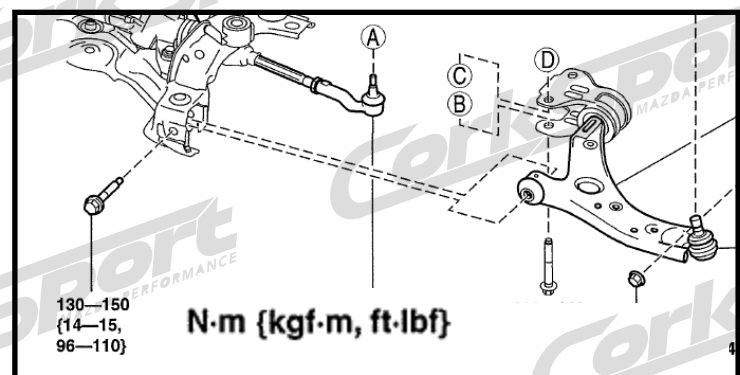

Figure 1d
d) Torque Control arm bolts down to 96-110ft.lbs. Figure 1d shows the location and the torque from the factory service manual. Make sure to hold the bar while torquing so the bar doesn't raise or reposition itself. This can be made easier by tightening left and right control arm bolts slightly until you reach full torque.